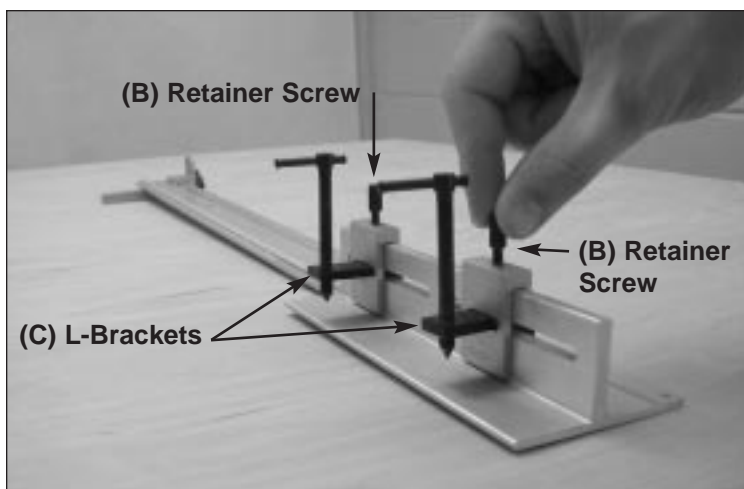

Fig. 3
3 Loosen the Retainer Screws (B) just enough to allow the L-Brackets (C) to move freely (Fig 3). **Do not remove the Retainer Screws completely.**